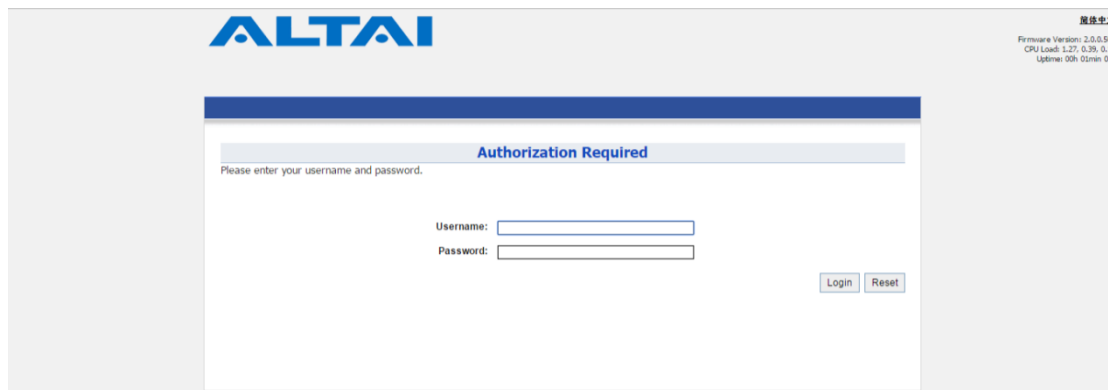

Figure 13 - A3c / A3w login page
- A3c / A3w login page appear (see Figure 13).